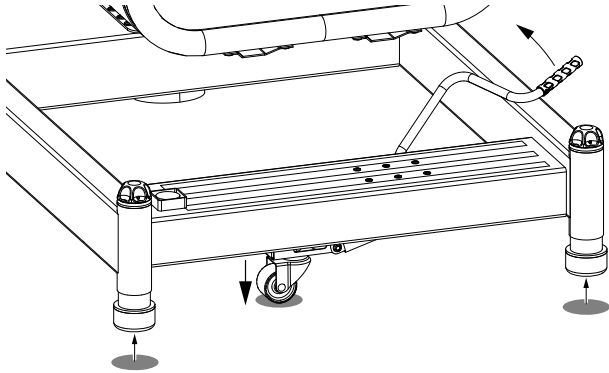

Figure 3-19. FT70 - Lift the handle to extend the swivel castor
1. Lift the handle to engage the swivel castor. (See Figure 3-19.)